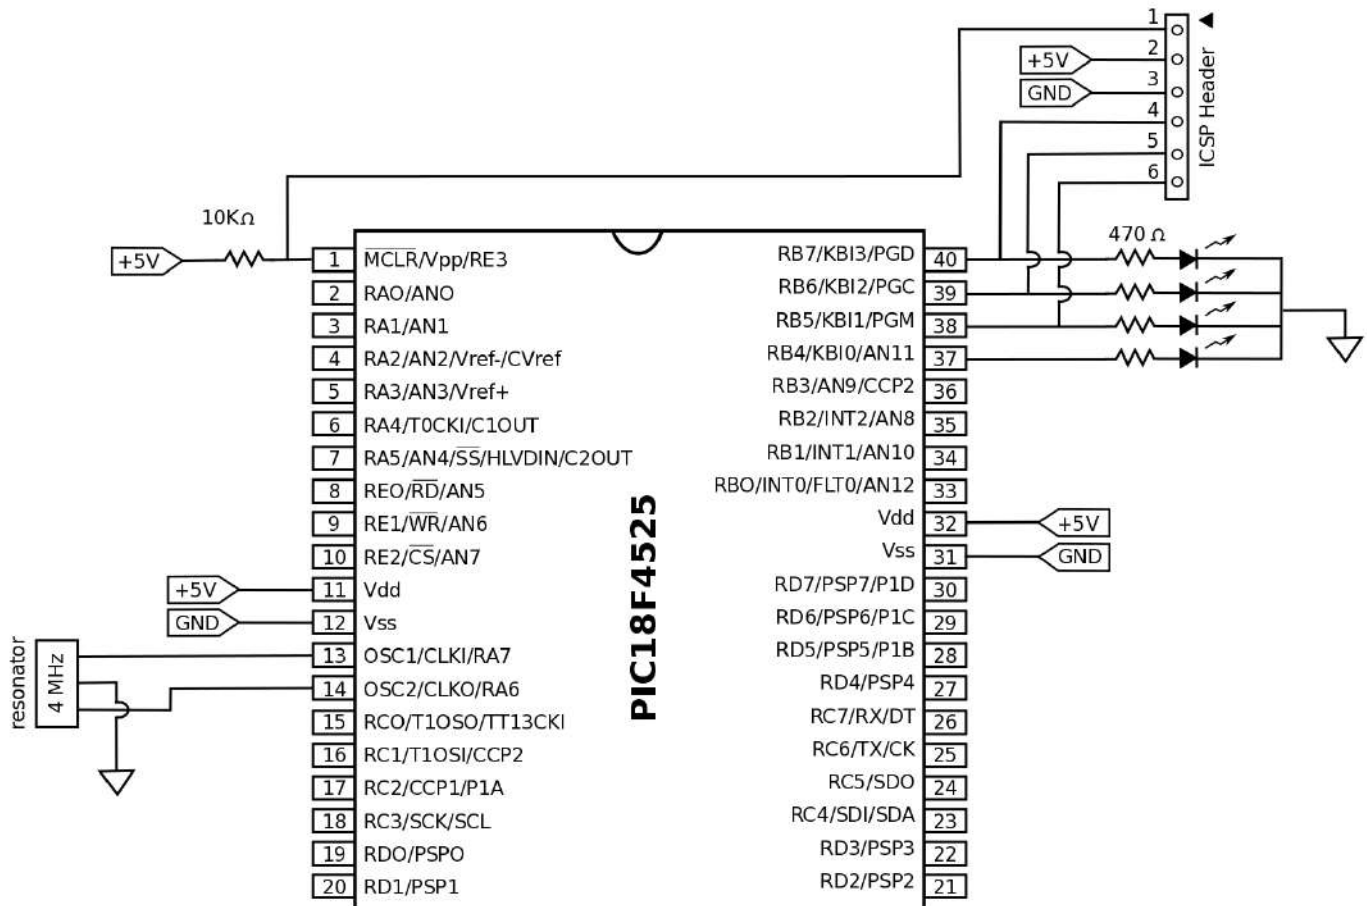

Figure 1.1: Schematic for lab 1
1. Using your breadboard, implement the circuit seen above in Figure 1.1.